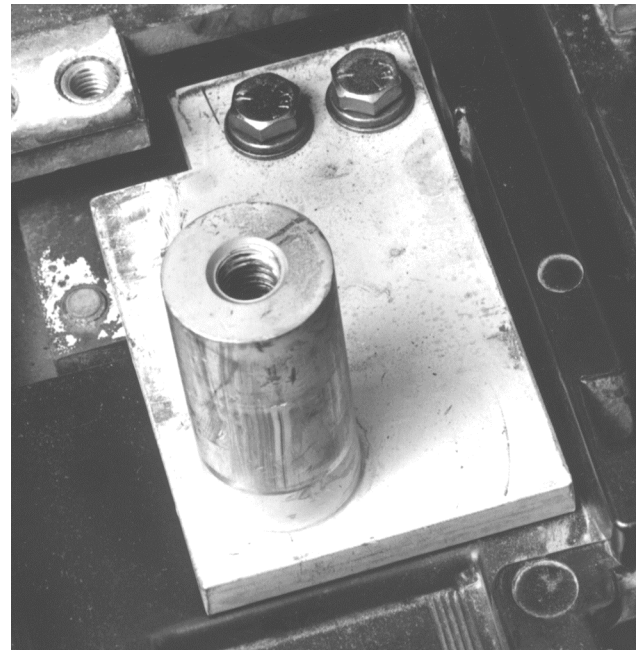

Figure 19. CT post mounted in the breaker back frame.
1. Mount the new copper CT post to the back frame with the two  $^3$  8-16 x  $1\frac{1}{2}$ " bolts, flat washers, and lock washers provided, as shown in Figure 19.